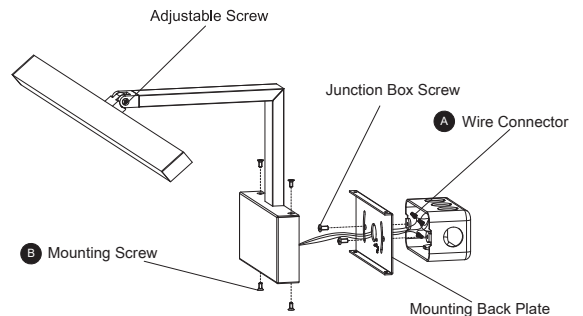

Fig.2 MOUNT ON JUNCTION BOX
MOUNTING THE FIXTURE ON JUNCTION BOX (Fig. 2)
2. Install the mounting plate to the junction box (See FIG. 2). Ensure the spacer alignment base is facing outward.